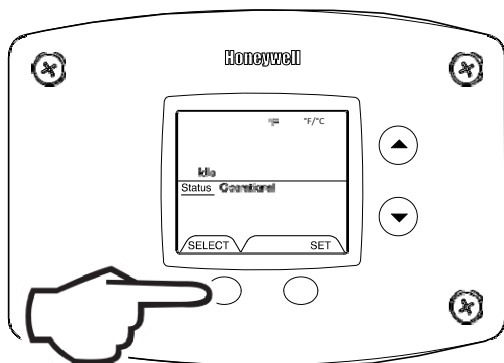

Fig. 65
1. While in 'Service Mode', press 'Select' button until '°F/°C' is shown in the upper right portion of the water heater display (Fig. 65).